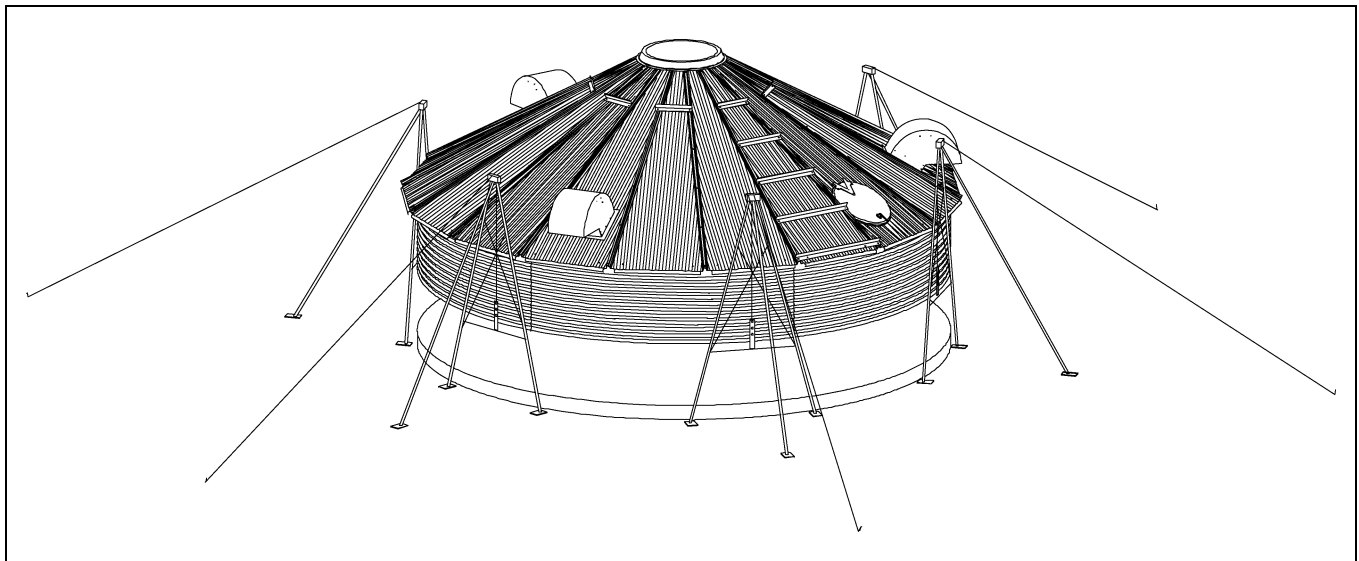

Figure 10A Lifting Jack
1. Give some thought before starting the bin, to the location of door and other accessories. Proper placement of lifting jacks in relationship to anchor bolts could make a difference on odd or even ring bins. Walk through door is centered between two (2) stiffener anchor bolts. The sidewall sheets are also staggered 1/2 from end to end.
2. Lifting brackets should be attached through the stiffener bolt holes. Normally you will need to attach to at least four (4) bolts per stiffener. Anchor all jacks securely with metal stakes and cable.
3. Now raise the bin just high enough to assemble the next ring. **When lifting the bin, crank all jacks at an equal rate.** This will prevent bowing previously assembled rings and make for easier hole alignment. (See Figure 10A.)